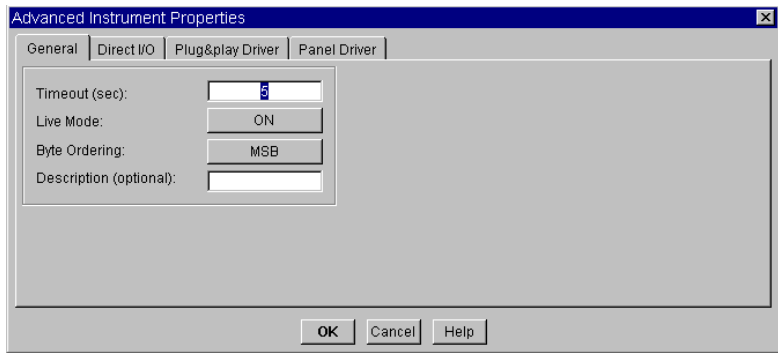

Figure 85 The Advanced Instrument Properties Dialog
- 3 Change the name to *scope*, leave all the other defaults as they are, and click **Advanced** . . . The Advanced Instrument Properties dialog box appears as shown in Figure 85.